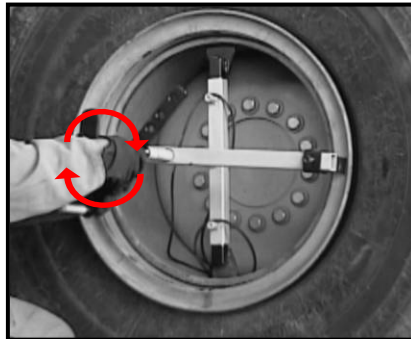
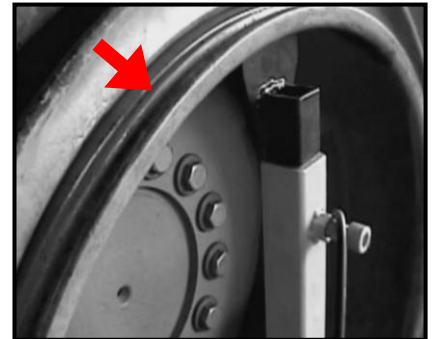

FIGURE 5a
FIGURE 5b
5. Turn the handle clockwise (**See Figure 5a**) onto the threaded center rod, simply turn while standing to one side until the push feet press against the rim flange, pushing the rim flange and bead of tire pass the "O" Ring groove allowing easy installation of the "O" Ring (**See Figure 5b**).